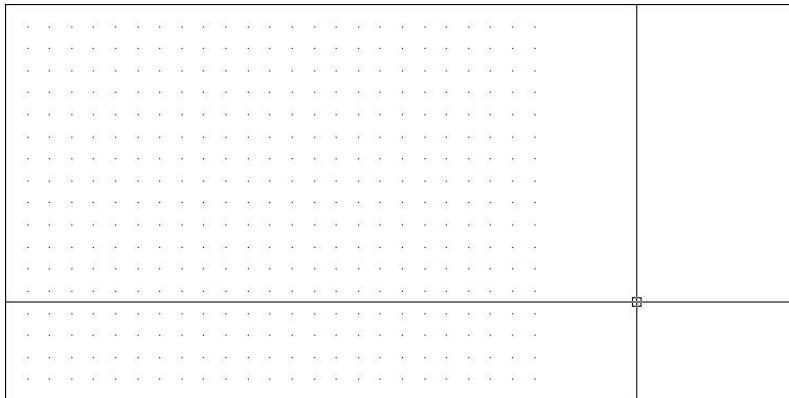

FIGURE 3.4: The AutoCAD default grid
2. At the Command: prompt, move the crosshair cursor to the status bar at the bottom of the screen and click the Grid button. The button will appear to have been pushed down, and dots will appear on most of the drawing area (see Figure 3.4). These dots are the grid. They are preset by default to be 1/2" apart, and they extend from the 0,0 point (the origin), out to the right, and up to the coordinate point 1'-0",0'-9". Notice that rows of grid dots run right along the left edge, top, and bottom of the drawing area, but the dots don't extend all the way to the right side. The grid dot at the 0,0 point is positioned exactly at the lower-left corner of the screen, and the grid at 1'-0",0'-9" is on the top edge, not too far from the upper-right corner.